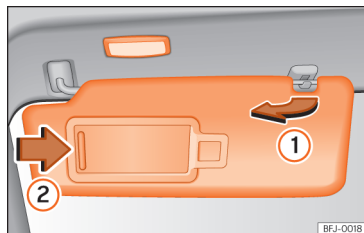

Fig.102 Sun visor
- The sun visor can be pulled out of its mounting and turned towards the door »» Fig.102 ①.